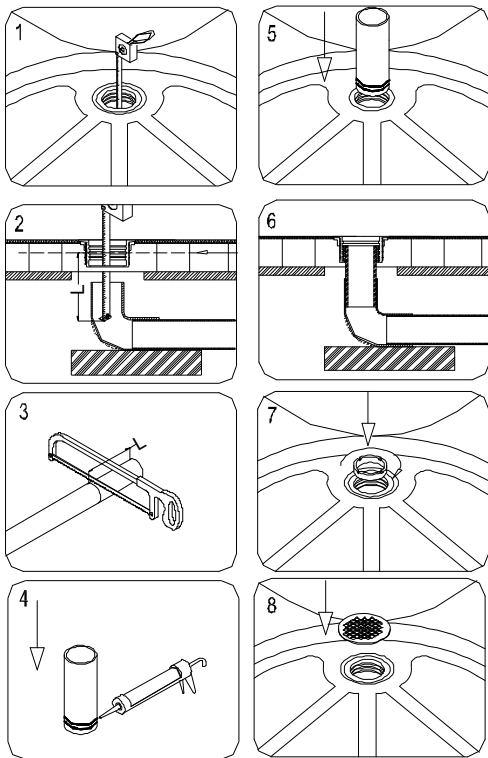
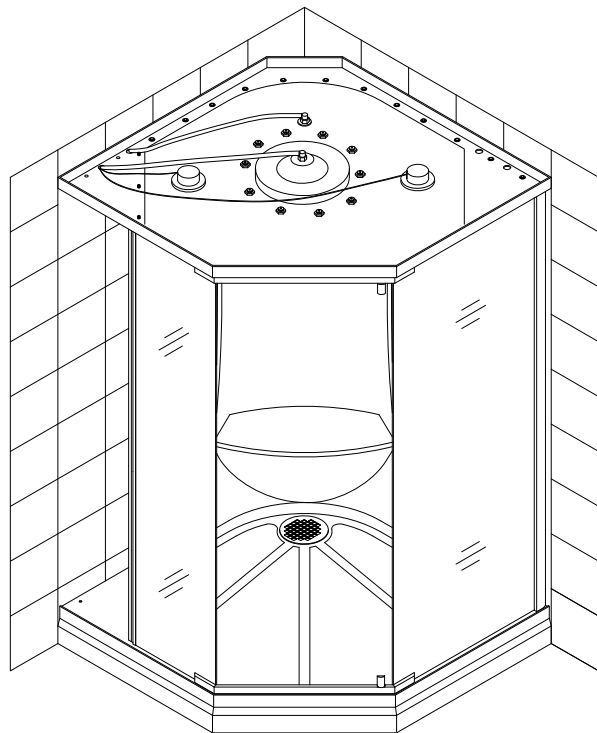

Fig 19
Fig 20
17. Measure the distance from straight part of the elbow or bushing to the top of the drain less 1/2". See Fig 19/1 and Fig 19/2. Cut piece of the 2" PVC pipe according the measurements. See Fig 19/2 and Fig 19/3. Clean PVC pipe and elbow according the PVC glue manufactory instructions. Apply the PVC glue to the elbow and PVC pipe and push pipe down into elbow. Hold it for 45 sec to 1 min to glue it together. Fig 19/4, 19/5, 19/6
18. After the glue had been dried finish the assembling of the drain according with drain manufactory instruction. Fig 19/7, 19/8, Fig 20.